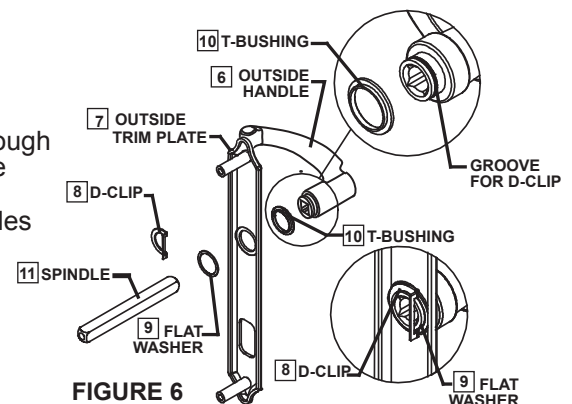

FIGURE 6
**B.** Insert outside handle through the T-bushing and outside trim plate. See Fig. 6.
**C.** On the back of the outside trim plate, place the flat nylon washer over the handle and slide the D-clip over the flat nylon washer, making sure that the D-clip is orientated vertically. Insert the square spindle all the way into the handle. Using the Hex wrench provided, tighten the set screw on the underside of the handle to hold the spindle in place. See Fig. 6.